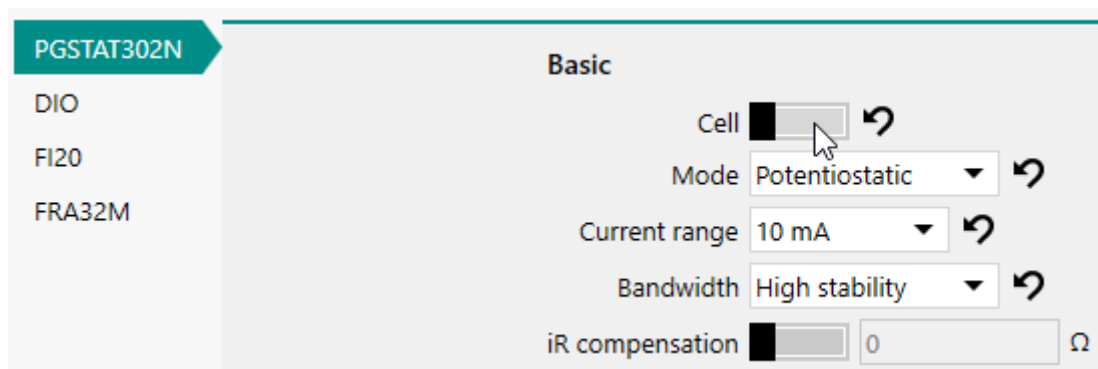

Figure 74 – Switching the cell off
- **Cell off:** to switch the cell off, set the Cell switch to Off (see Figure 74).